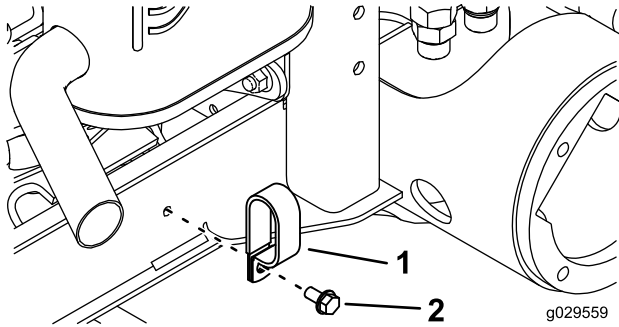

Figure 2
1. Remove the bolt securing the hose clamp to the frame channel on the right side of the machine (Figure 2).